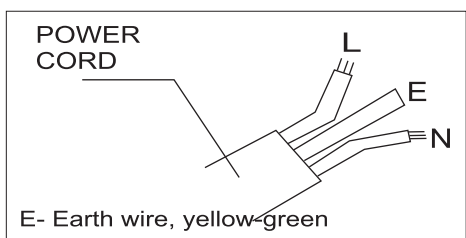

Fig.1
1. Power cord conductors are distinguished according to color as follows (shown in Fig.1).
2. For your safety and protection, this unit is earthed through the power cord (shown in Fig.1). Please contact the manufacturer or its service dealer or a similarly qualified person if you want to replace it.